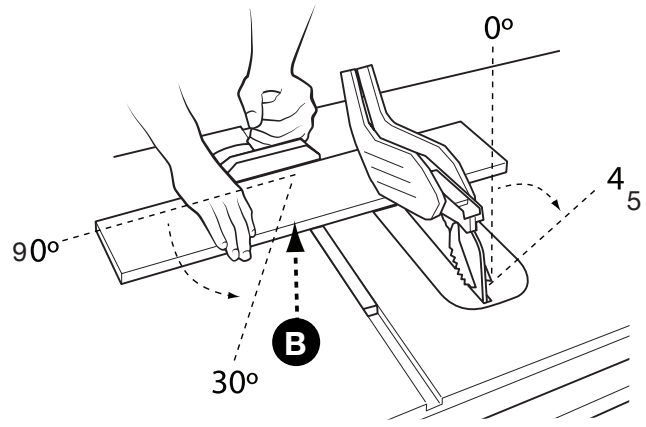

FIGURE 24
Miter crosscutting is the same as crosscutting except the miter angle (B) is set to an angle other than 90° (Fig. 24).
This is a combination of bevel crosscutting and mitering. Refer to (Fig. 24) and follow the instructions for both bevel crosscutting and mitering. Remember to use the right miter slot on the right side of the blade for all bevel cuts.